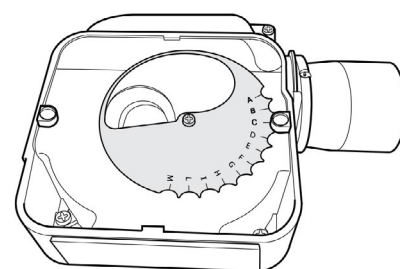

Figure 10-2: 15/21 air adjuster disc at position 'C'
To adjust the 15/21 air adjuster disc when downrating - See Figure 10-2.
4. The secondary air shutter disc is factory set in position 'C' - i.e. with the cut-out marked C located against the die-cast boss on the fan housing - suitable for outputs of 18.3 and 21 kW only. See Figure 10-2.